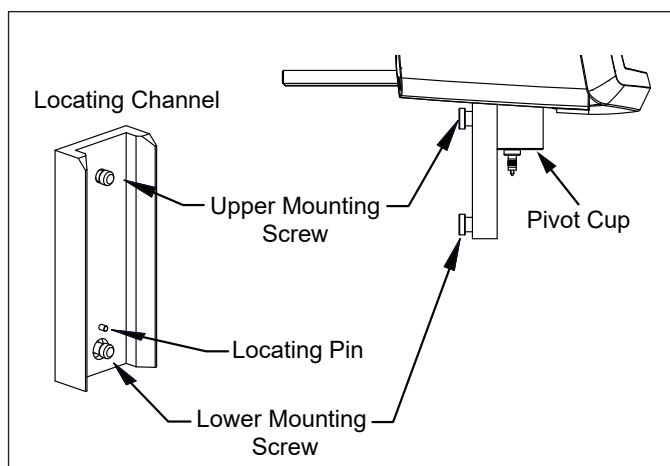

Figure 3: Installing the Locating Channel
1. Attach the locating channel to the Viscometer/Rheometer Pivot cup, shown in Figure 3, by screwing the upper mounting screw into the hole at the rear of the Pivot cup.